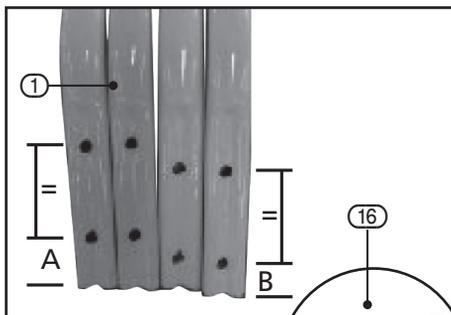

FIG. 2
8.1 SUPPORT STAND – FIGS. 2 – 3
- Sort the 4 support legs (1) into two pairs with matching drill holes.
- Attach one pair of legs to the fixing tube (1.1) on opposite sides, fix with the M8 × 100mm bolts/nuts (16), then fix remaining legs.